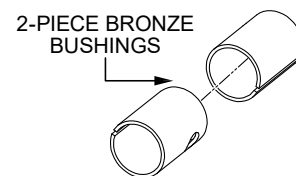

Figure 52. Bronze Bushings
5. Examine the **bronze trowel arm bushings** (Figure 52), and clean them if necessary. Replace the bushings if they are worn or out of round.